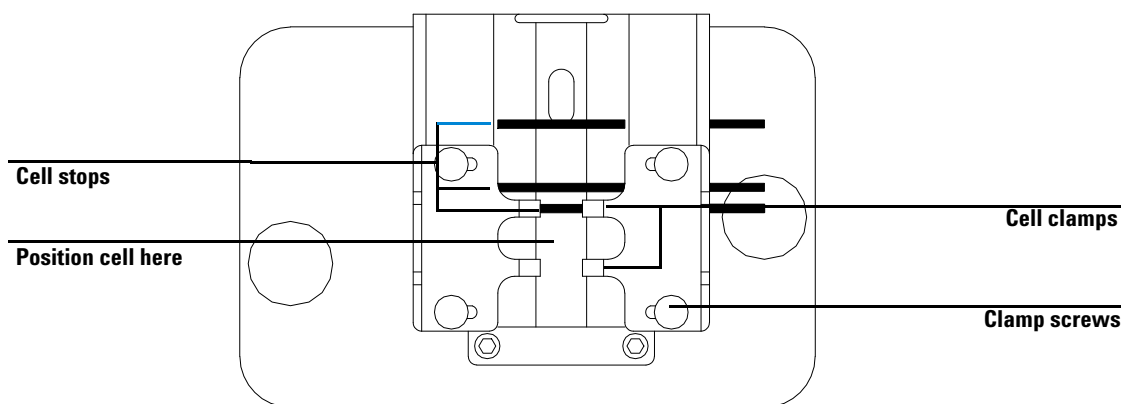

Figure 17 Positioning the cell stops for a 1-cm sample cell
- 2 If your sample cell is not one of the standard lengths, position the cell stops as for a long path sample cell, i.e. move all cell stops in Figure 17 to the left.